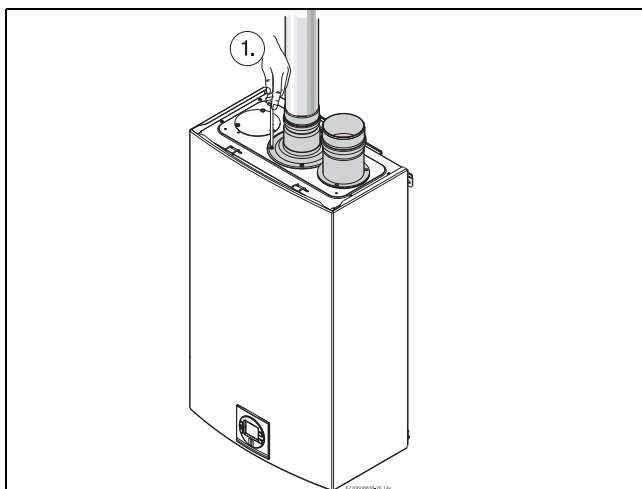

Fig. 16 Exhaust connection
▶ Attach the flue gas exhaust accessory to the top of the unit fig. 16 (position 1) using the 4 screws and gasket provided, and fully insert vent pipe into the accessory. If using 4" venting, a 3" to 4" increaser should be installed directly after this accessory.